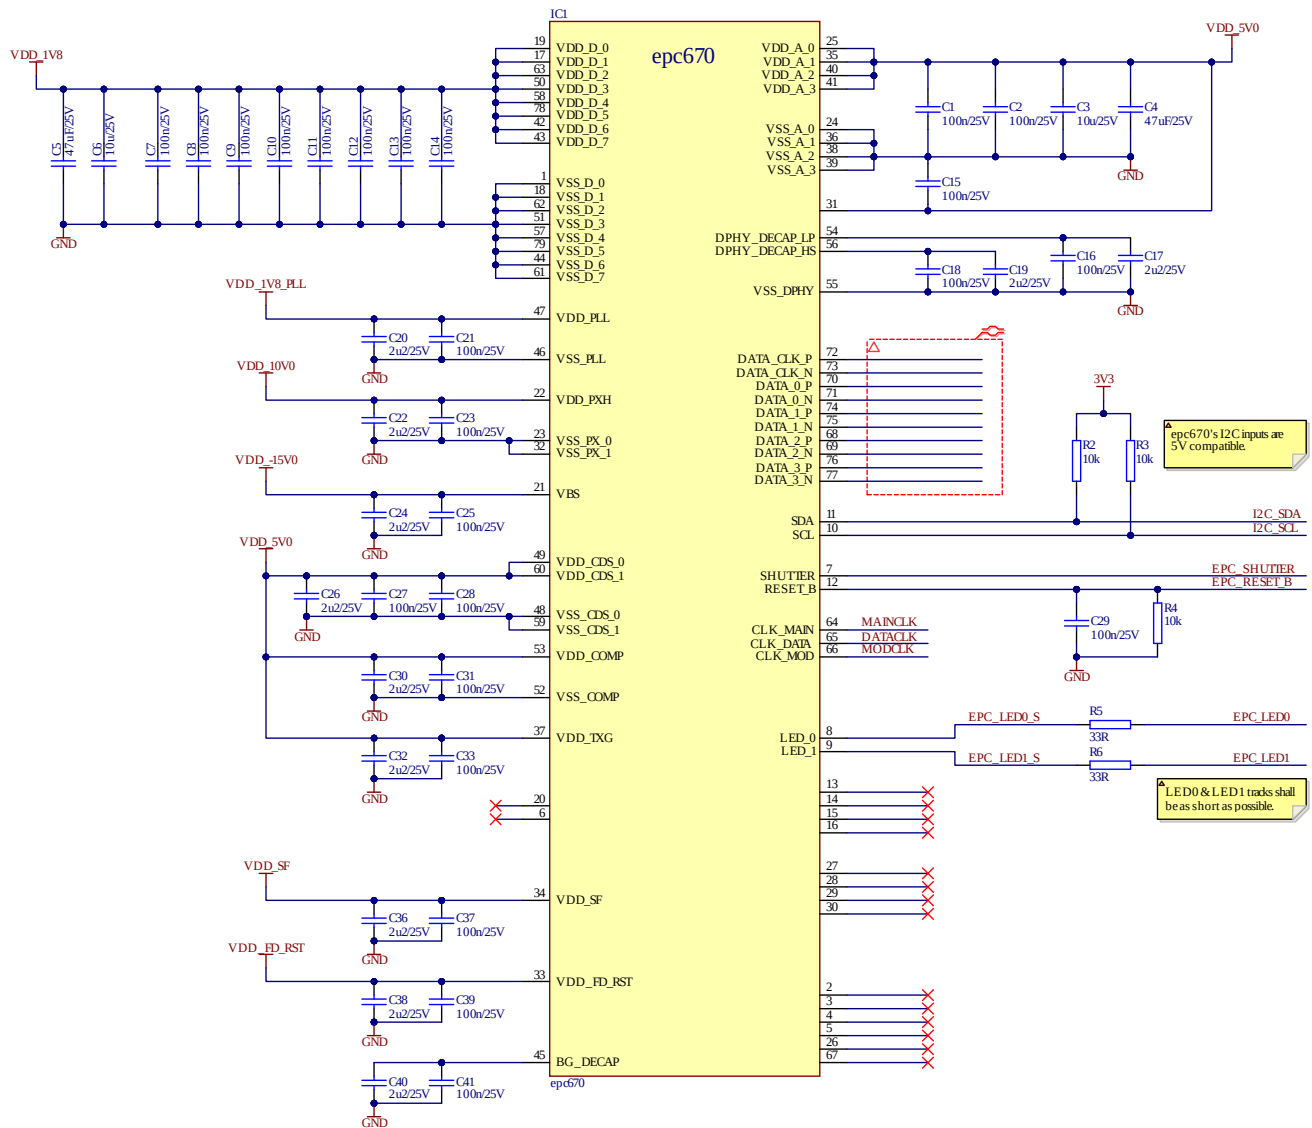

Figure 57: Typical application diagram
- epc670 is supplied with +1.8 V, +5 V, +9 V, +10 V and -15 V. See Figure 57.